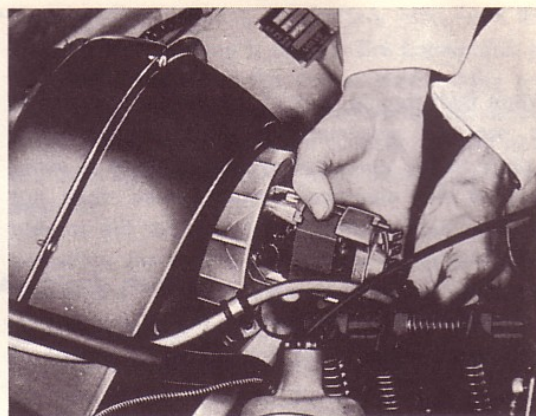

Fig. 111. Removing the heater fan motor
3. Unscrew the six screws securing the fan motor cover to the radiator shell. Unscrew also the two nuts holding the cover to the fan motor. Remove the cover and then the fan motor see Fig. 111.